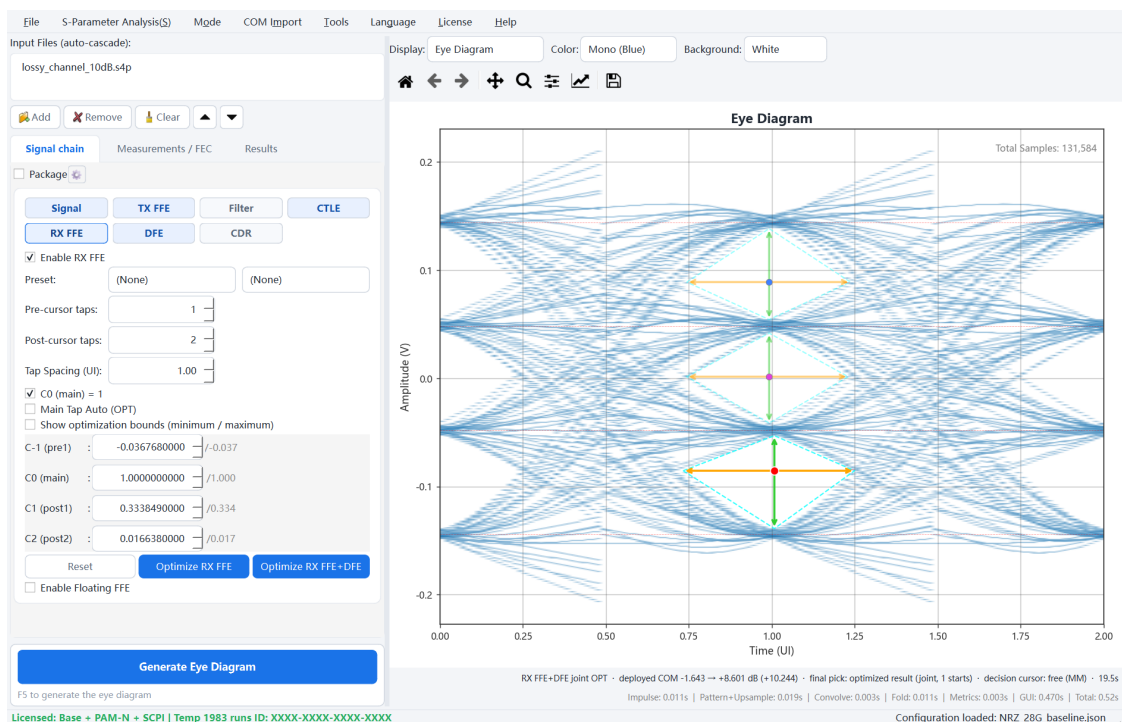

Fig. 3-3 Full equalizer chain: three open eyes
Step 7 With all stages done, click the fixed bottom "Generate Eye Diagram" button (or press F5) once more: all three eyes are open (Fig. 3-3) and COM has climbed from negative to about 9 dB.